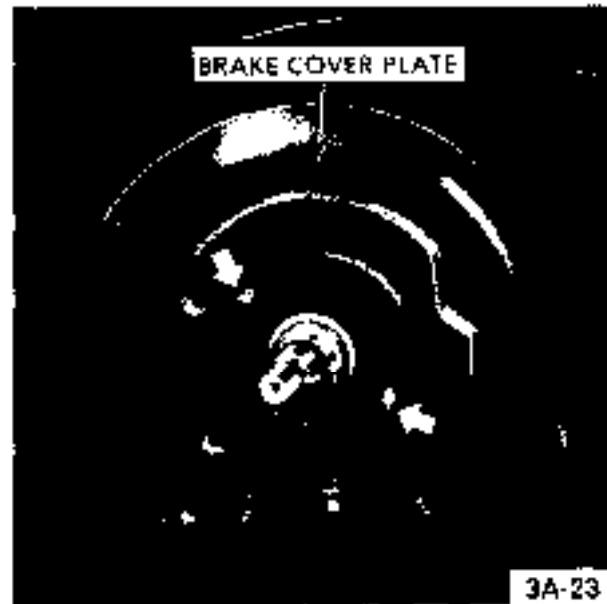

Figure 3A-23 Attaching Brake Cover Plate
2. Attach brake cover plate and steering arm to steering knuckle. If required, install new paper gasket *between* cover plate and steering knuckle. Care for proper seat of T-head bolts. See Figure 3A-23.